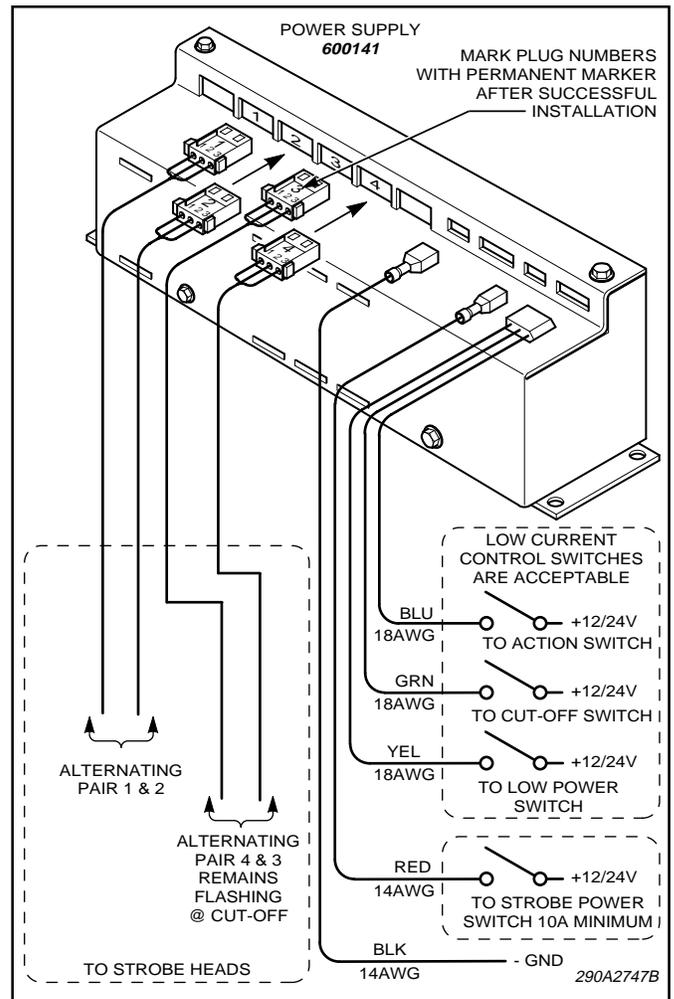

Figure 1.
Refer to figure 1 while completing the electrical connections.
5. See figure 1 and proceed as follows: